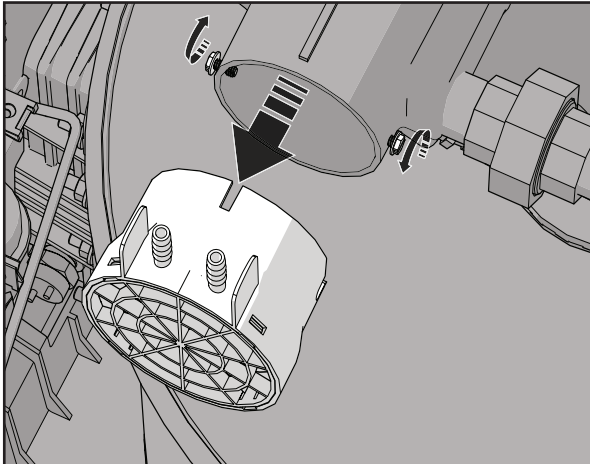

Figure 12. Remove Air Intake Orifice
1. Using a short-handled screwdriver, slightly loosen the two (2) screws from the air intake orifice.
2. Gently remove the original air intake orifice and screen from the blower air intake (Figure 12).